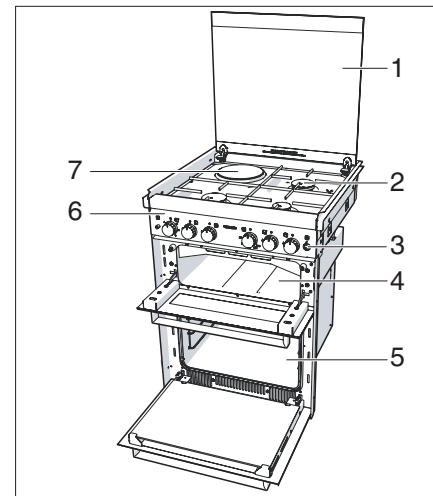

Fig. 116 Fullcooker
- For spark ignition models: Push the ignition button (Fig. 116,3).